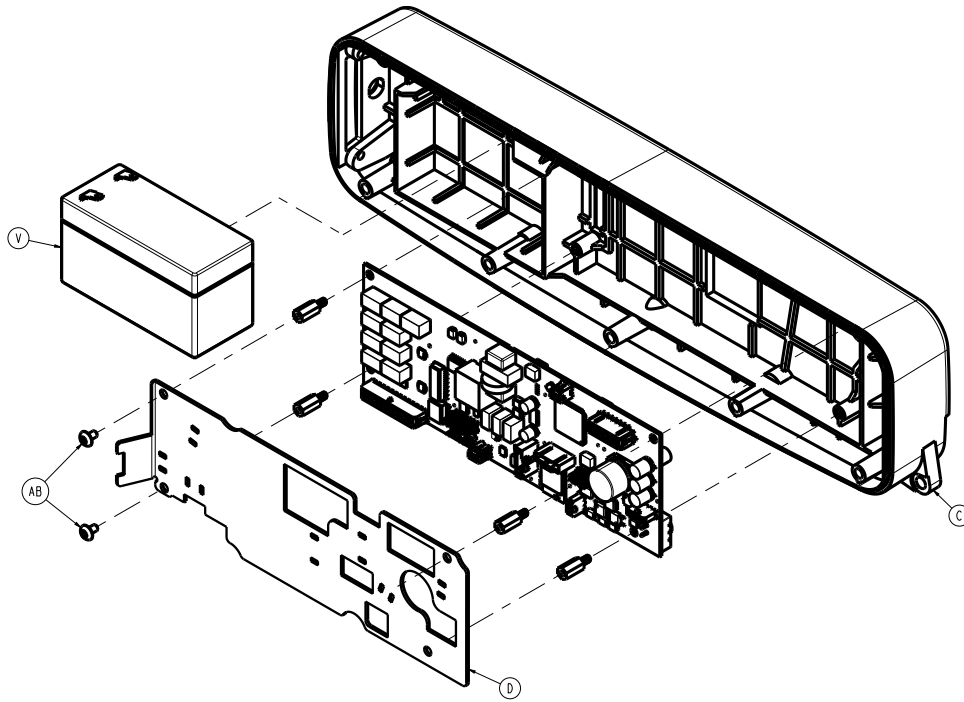

Figure 5 – Replacing the battery (left)
7. Using a #2 Phillips screwdriver, remove the two screws (AB) near the battery (V) that secure the cable routing tray (D) to the body (C) (Figure 5). Save the screws.